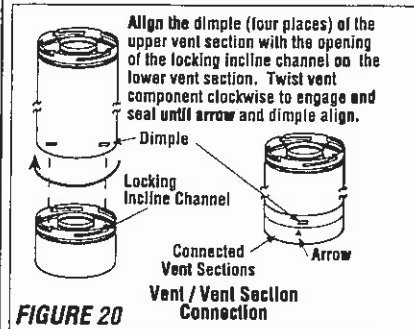

**FIGURE 18**
**A. Frame ceiling opening** - Use a plumb line from the ceiling above the appliance to locate center of the vertical run. Cut and/or frame an opening, 10 1/2" x 10 1/2" (267 mm x 267 mm) inside dimensions, about this center mark (**Figure 18**).
**C. Frame ceiling opening -** If the vertical route is to penetrate a ceiling, use plumb line to locate the center above the appliance. Cut and/or frame an opening, 10 1/2" x 10 1/2" (267 mm x 267 mm) inside dimensions, about this center (refer to Figure 18 on page 11).